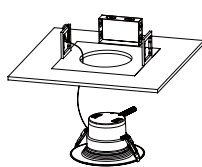

Fig. 3
- Step 3:** Attach the carabiner safety clip to the existing fixture housing (Fig. 3).